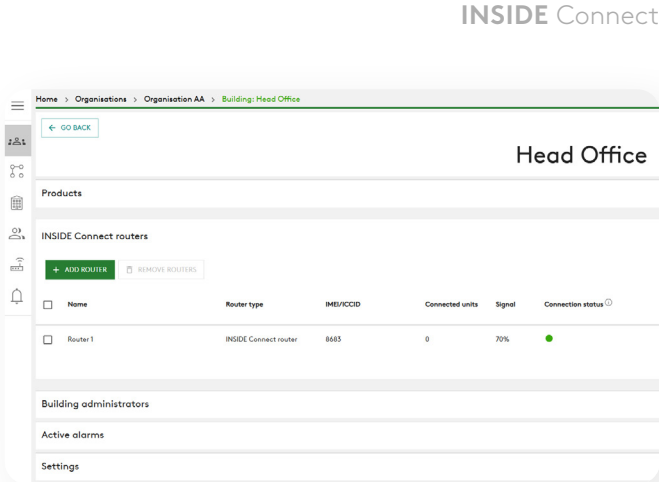

Figure 9. Add new router to building.
2. Press the button **ADD ROUTER** in the top left corner (fig.9).